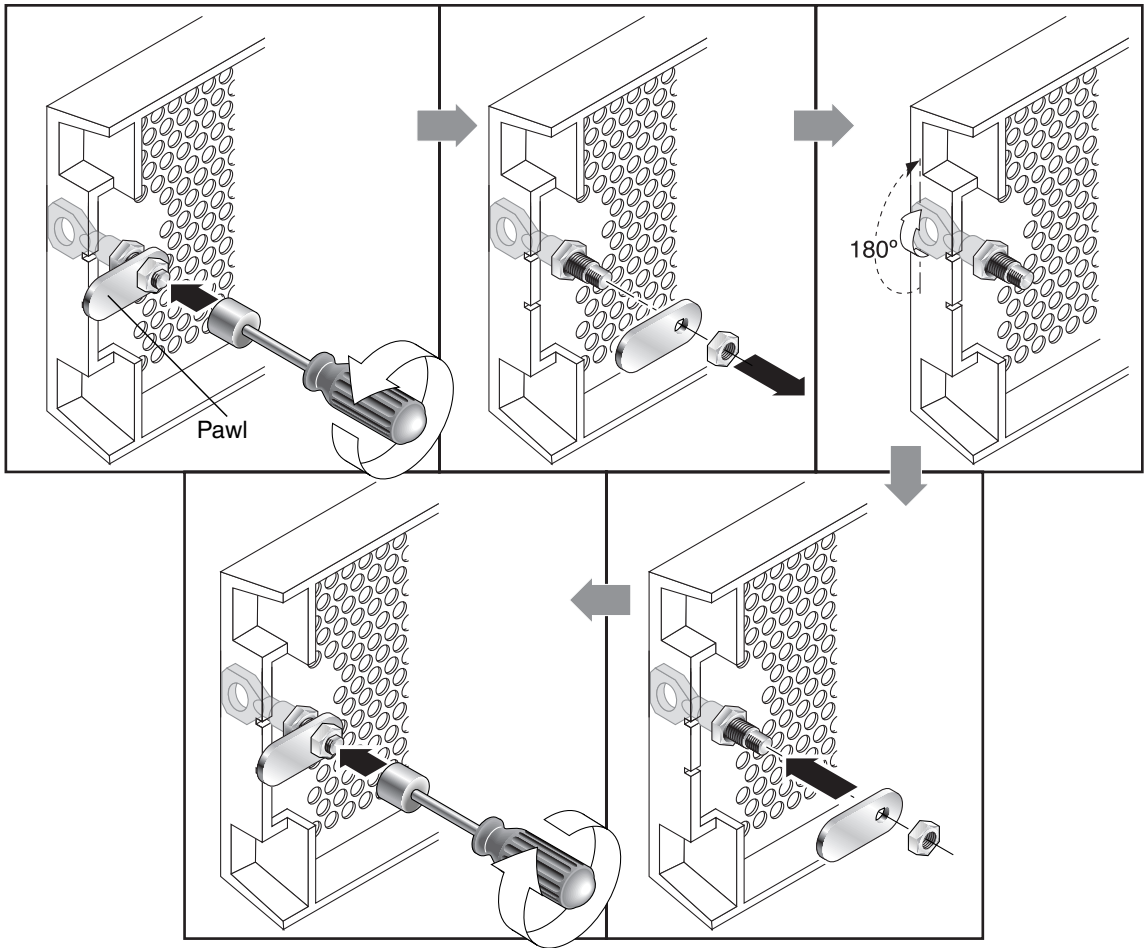

FIGURE 1-2 Sequence of Steps to Change Front Bezel Locks So Keys Cannot Be Removed
1. Remove the bezel by gently pivoting the swing arms out of their ear sockets, and make sure the key is in the locked position, with the pawl extending horizontally past the edge of the bezel (see the first panel of FIGURE 1-2).
2. Hold the key in place and use a 12-mm or 3/8-inch nut driver to remove the locking nut that holds the pawl in place, as shown in the first panel of FIGURE 1-2.
3. Lift the pawl off the threaded part of the lock body, as shown in the second panel of FIGURE 1-2.
5. Use the key to turn the lock 180 degrees, as shown in the third panel of FIGURE 1-2.
6. Replace the pawl in the same orientation as before, as shown in the fourth panel of FIGURE 1-2.
7. Hold the key in place and use the nut driver to refasten the locking nut that holds the pawl in place, as shown in the fifth panel of FIGURE 1-2. Be careful not to cross-thread the nut.